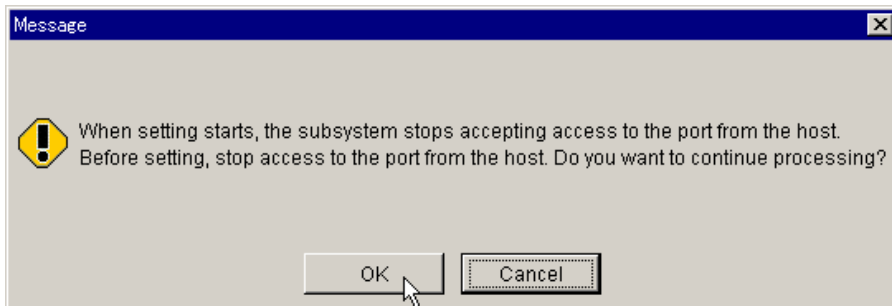

Figure 5.33 Stop I/O Warning Message
7. The **Stop I/O** warning message displays (see Figure 5.33), because host access will be disrupted during the port setting. Stop I/O from the host before continuing.